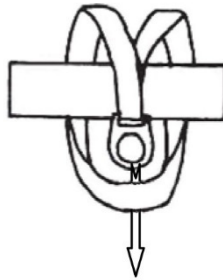

Fig.2
- ◆ Ensure the webbing lies flat, has no twists and is in continuous contact with the structural member. Pull the connector end back through the loop at the opposite end to create a hitch (Fig. 2).